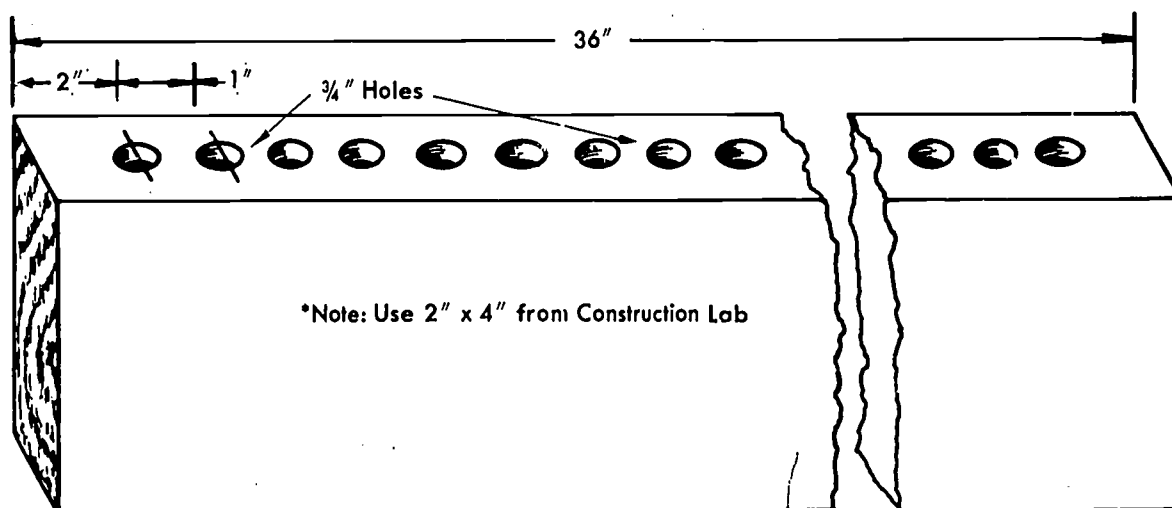

Fig. 103-1. Test-Tube Rack, Teacher Built (Optional)
- 1 test tube rack *or* substitute, to hold 25 culture tubes. NOTE: See Fig. 103-1 for making test tube rack.
1. See Fig. 103-1 for suggested rack, to be built by the teacher or borrowed from the science department.